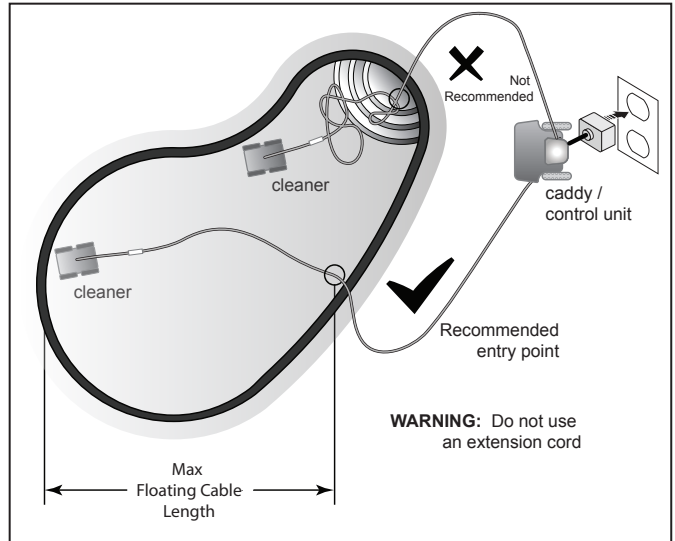

Figure 6. Setup for Optimal Patterning
**NOTE:** For optimal patterning and reduced tangling, the floating cable should enter the water near the middle of the pool length. Only place enough cable in the water to reach the farthest point in the pool (see Figure 6).